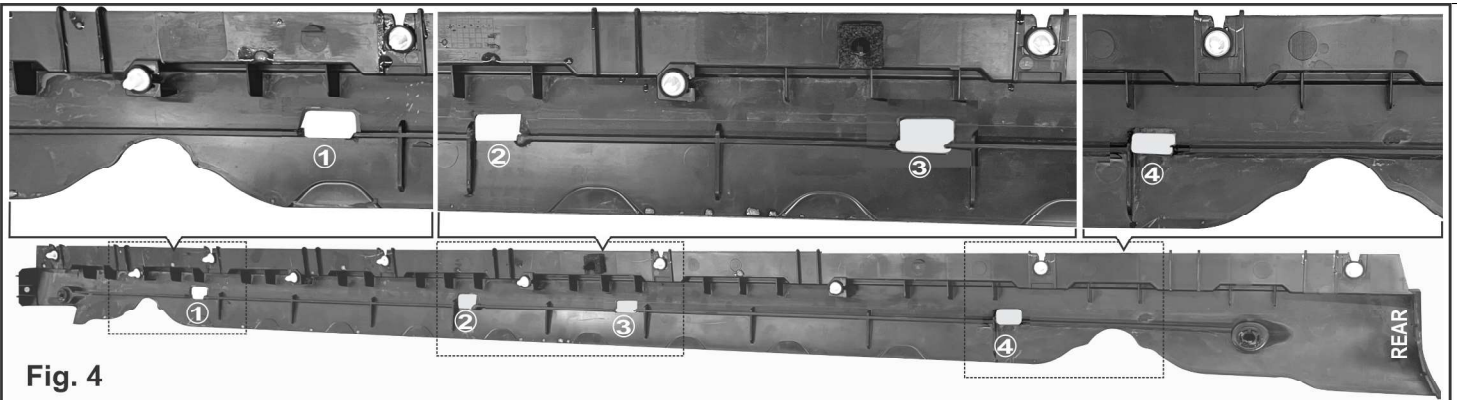

Fig. 4
6. Position the Tracer assembly between the running board and the vehicle rocker panel (Fig. 4). Align the Tracer's mounting bracket holes with the lower mounting bolt holes in the running board. **Important! During reassembly, tighten all vehicle hardware to the recommended torque values specified in the Factory Service Manual for your vehicle.**
5. Using the hardware provided, secure the running board/mounting bracket assembly to the Tracer mounting brackets (Fig. 4).
3. Slide the lightbar onto the slides on the mounting brackets. When the light is in position, tighten the screws on the slides to secure the light (Fig. 4).
1. Remove the 2 lower plastic trim pieces. Remove the lower one (Fig. 4).
3. Use the installed brackets as a guide for cutting clearance holes/slots for the tracer mounting brackets (Figs. 4 & 5).
5. Re-install the 2 lower plastic trim pieces, install the outer one first (Fig. 1). Then install the modified trim piece from step 4 (Fig. 4)